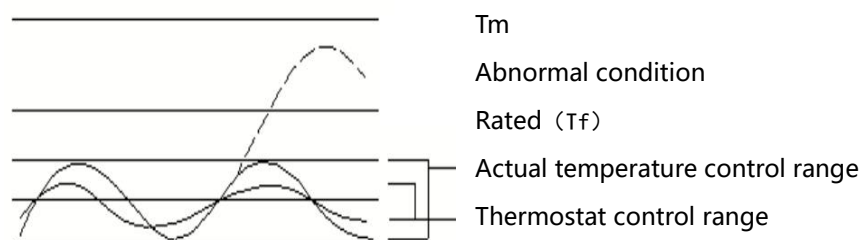

Fig.3
5) Application products must undergo testing to ensure that no abnormal conditions will cause the temperature around the fuse to exceed the limit temperature (T_m), which may occur in a condition known as "excess heat overshoot." For example, when a hot air blower experiences blockage at the inlet or outlet, causing the temperature to rise to T_m , the fuse will interrupt the circuit. However, an incorrect design may lead to premature circuit interruption, and excessive excess heat overshoot could damage the fuse. Application products must be tested to confirm that under normal temperature fluctuation conditions (such as heater temperature variations caused by the actuation and reset of the thermostat), the temperature around the fuse will not reach T_m during the thermostat's on-off cycles. (See Figure 3)